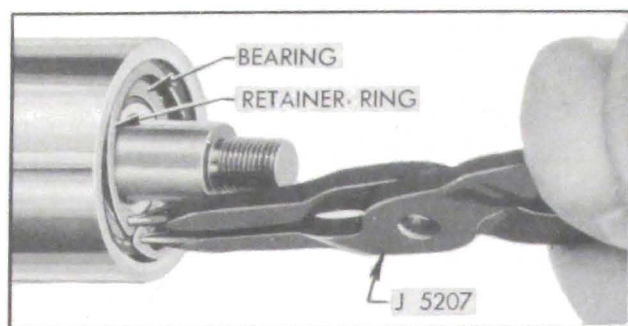
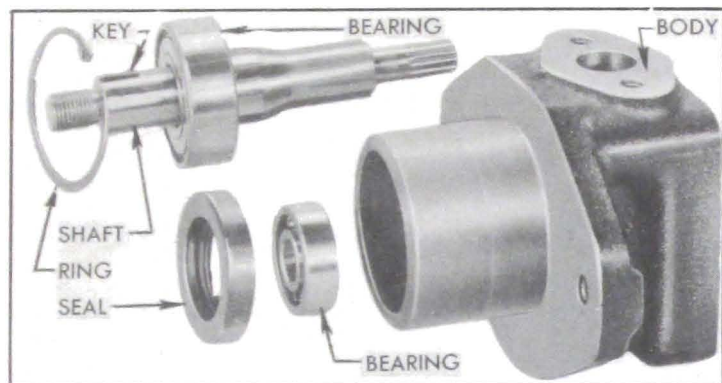

Figure 7-22—Removing Bearing Retaining Ring
Figure 7-23—Drive Shaft, Bearings, and Seal
5. Remove bearing retaining ring, using Ring Compressor J 5207 (fig 7-22), then press drive shaft and outer bearing out of pump body. Shaft must be pressed through the inner ball bearing which is located in body behind the shaft seal. See figure 7-23.